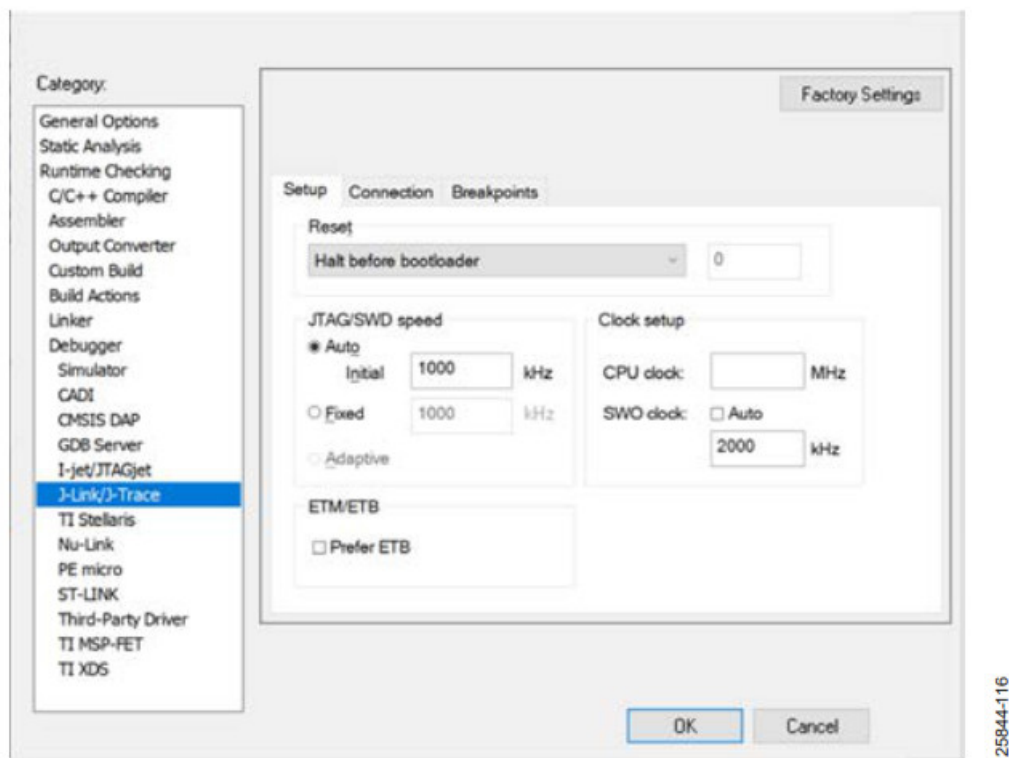

Figure 17. J-Link/J-Trace Settings
7. Check that the J-Link/J-Trace settings in the Setup tab match those as shown in Figure 17.